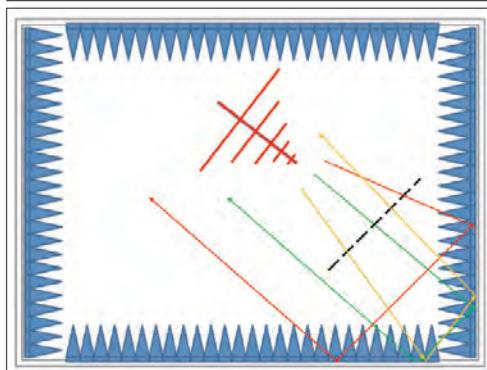
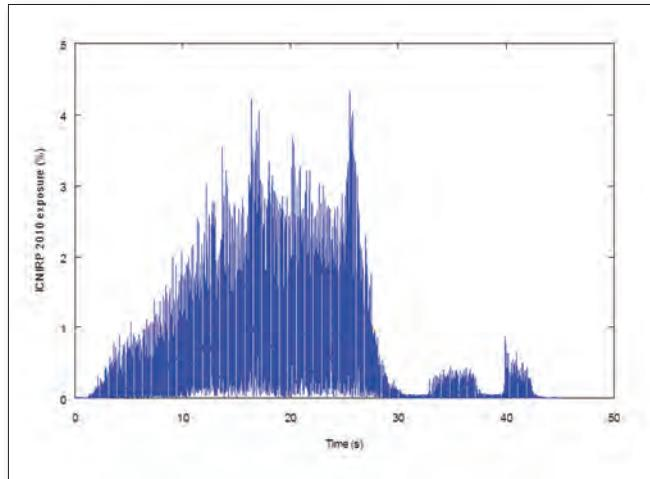

FIGURE 2: Cardinal rays reflecting off the corner walls
FIGURE 3: Time-varying exposure measure derived from measured magnetic field based on ICNIRP 2010 reference levels for general public exposure [13].
Figure 2 (next page) shows the three resultant reflected rays. It can be seen that the green boresight ray and the red half-power ray pass through the calibration plane once only (the ideal), but unfortunately the orange ray passes through twice. However, this is better than all three re-passing through the plane as is the case with the antenna facing the hot wall. On route, the orange ray passes
FIGURE 2: Time-varying exposure measure derived from measured magnetic field based on EU recommendation 1999/519/EC [10] and ICNIRP 1998 reference levels for general public exposure [9].
Sample results obtained using (2)–(3) are shown in Fig. 2 (relative to the ICNIRP 1998 reference levels) and Fig. 3 (relative to the ICNIRP 2010 reference levels). These results were derived from magnetic field data recorded in the vicinity of the driver's feet during a simple drive cycle of 45 s duration, which included periods of acceleration and braking.